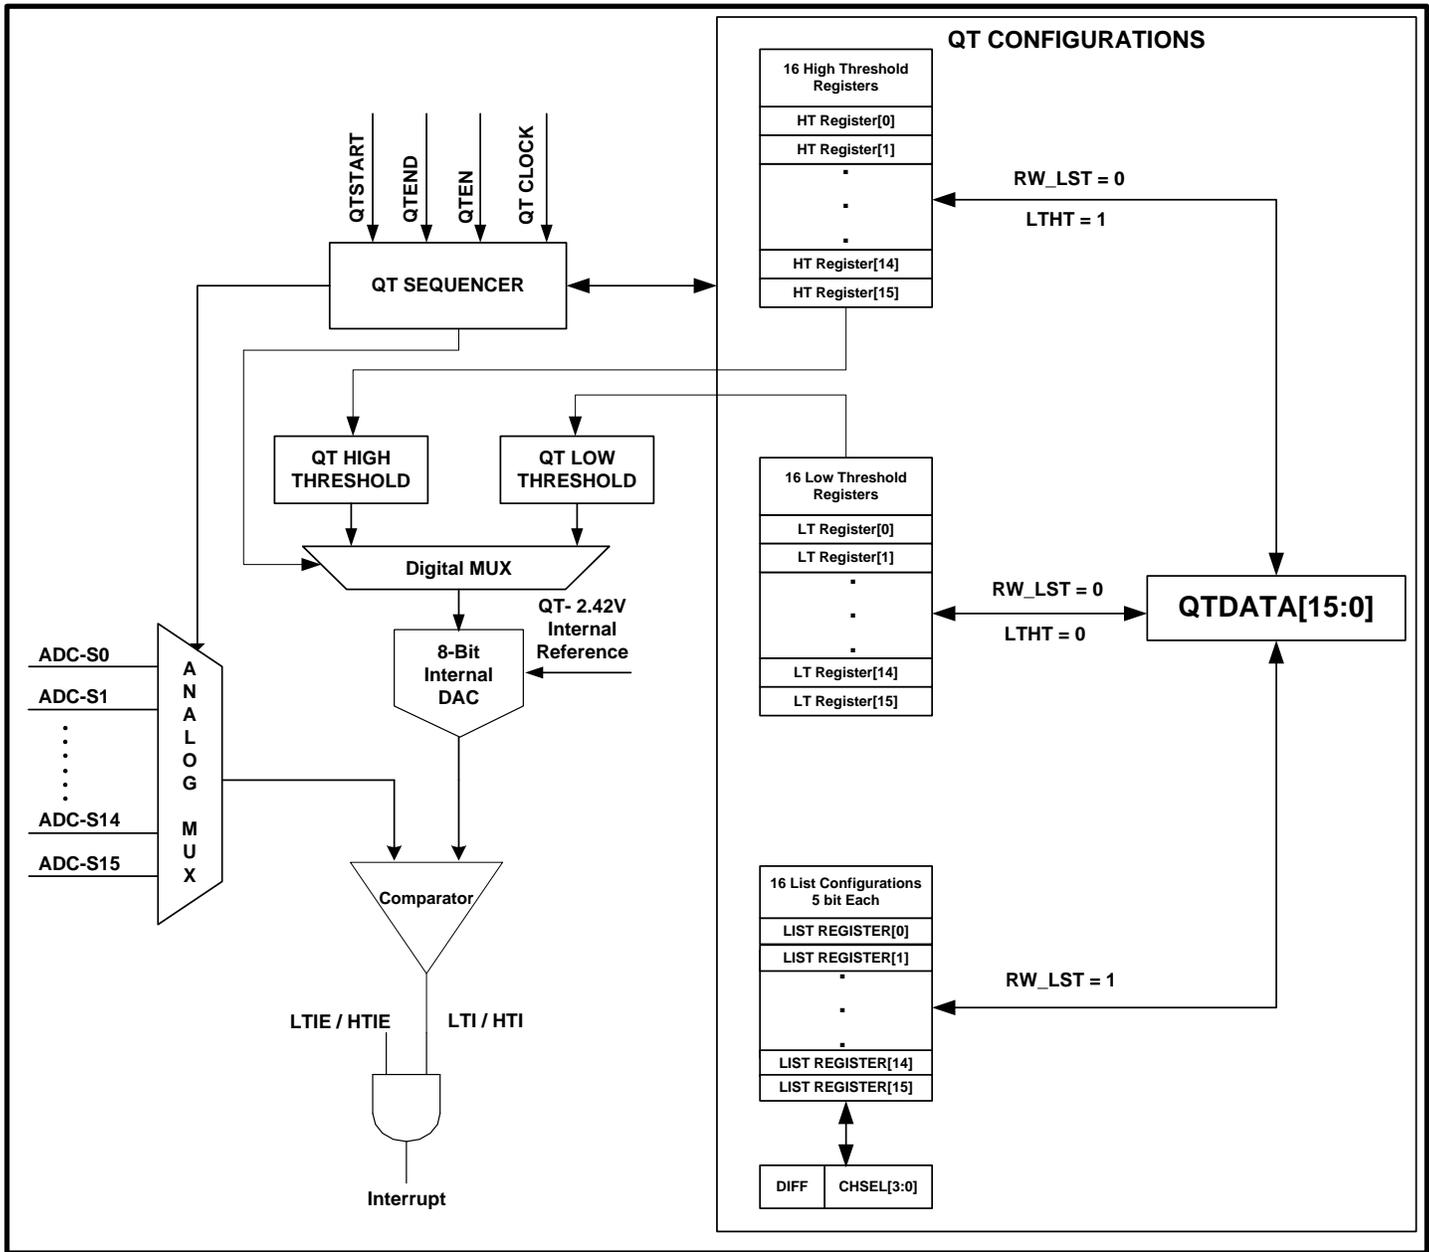

Figure 9-1: Quick Trip Functional Block Diagram
The DS4830 has 16 8-bit quick trips with 16-input Analog MUX (Figure 9-1). The MUX selects the quick trip analog input from 16 external channels. The quick trip external channels can be configured to operate as eight fully differential inputs or sixteen single-ended inputs. The quick trip monitors all configured quick trip channels in a round robin sequence.
As shown in Figure 9-1, the DS4830 Quick Trip (QT) controller has a 16-input analog MUX and Quick Trip Sequencer. The QT sequencer creates a list of configurations and sets user defined low and high threshold for external channels. The quick trip controller has 16 low trip threshold and 16 high trip threshold internal registers. The Quick Trip Control Register (QTCN) has two bits RW_LST and LTHT which are used to configure thresholds and list creation. The QTIDX[3:0] bits (located in the QTCN register) together with LTHT and RW_LST bits select the source or destination address for the QTDATA register access. Figure 9-1 illustrates the threshold configuration and list creation.
As shown in Figure 9-1, the quick trip controller has 16 list registers. These are configured by writing to the QTDATA register when the RW_LST bit is set to '1'. The list address is addressed by the QTIDX[3:0] bits. Each list register uses only lower 5 bits. The first 4 lower bits CHSEL [3:0] specifies the quick trip input channel. The DIFF bit selects between single-ended mode (when DIFF bit is set to '0') and differential mode (when DIFF bit is set to '1') quick trip comparison. The start and stop addresses of the list are provided by the Quick Trip List Register (QTLST). Any channel can be used multiple times at any location in the list.
As shown in Figure 9-1, the quick trip sequencer selects a channel from 16 external channels. The quick trip controller has an internal 8-bit DAC which generates voltage for low and high threshold comparisons with the external channel input. The quick trip is also called "Fast Comparator" as it compares the input with threshold using the fast comparator. The conversion time is 1.6µs for each threshold; so each channel's thresholds are compared in 3.2µs (1.6µs for low trip threshold + 1.6µs for high trip threshold).